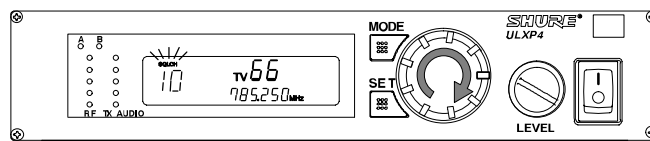

FIGURE 41
2. Rotate the control knob. The new Squelch setting will appear on the display, as shown in Figure 41.